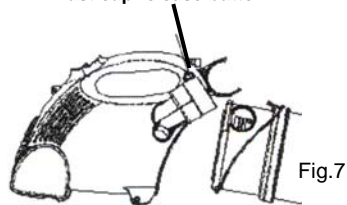

Fig.7
2. To open the dust cup (container), push button and remove the dust cup (container). (fig. 7)